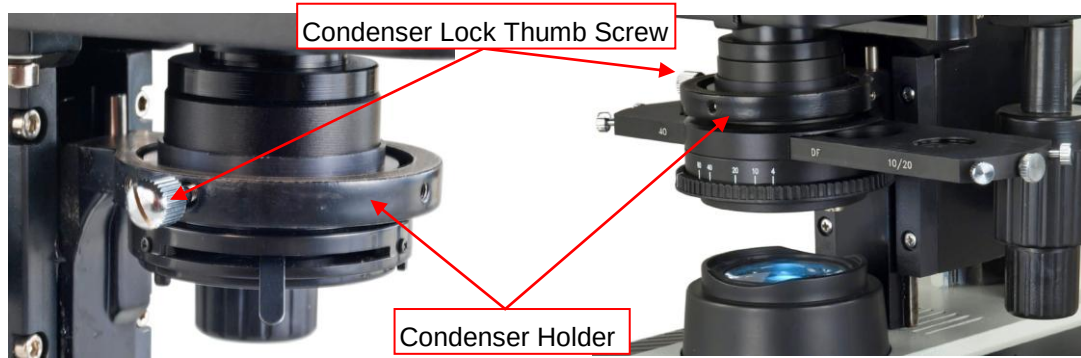

Fig.18
- e. Loosen the condenser lock thumb screw (**Fig. 18**), pull down the condenser and take it off.
- f. Insert the condenser/annular ring disk into the condenser holder, and tighten the thumb screw (**Fig. 18**).